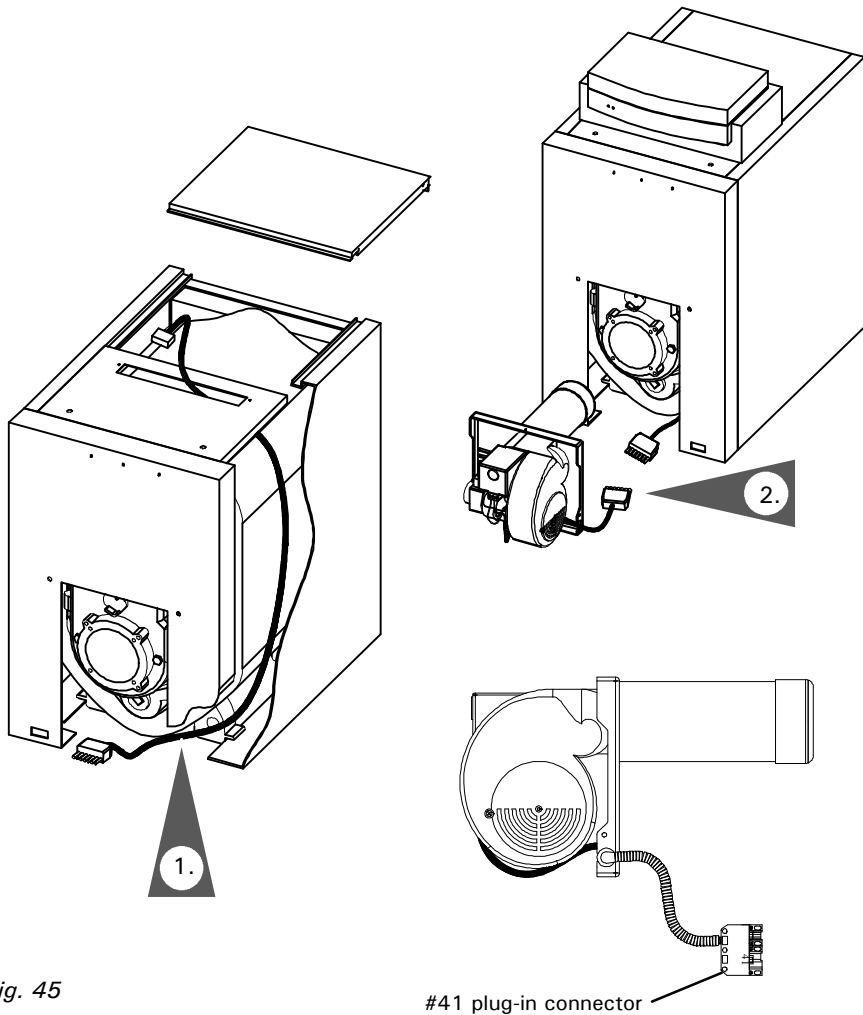

Fig. 45
2. Connect the RAST-5 plug-in connector 20 of the Pump Junction Box to the main circuit board of the control, as shown in Fig. 45.
3. Feed the power supply cabling of the system pump through the opening at the back of the boiler and connect to terminals in pump junction box (See Fig. 45).